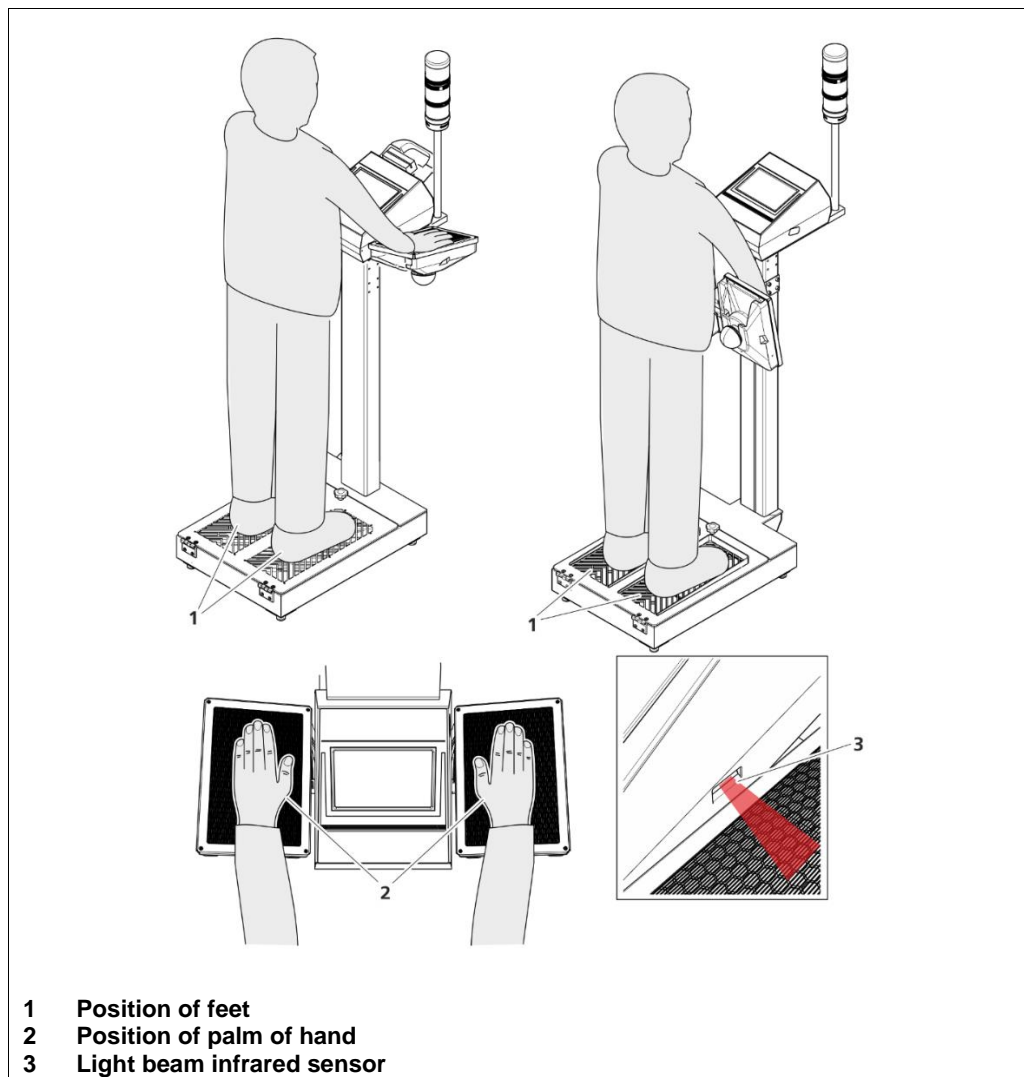

Fig. 13 Positioning feet and hands
1. Step onto the foot plate with both feet (Fig. 13, item 1). Make sure your feet are completely on the foot grates.
3. Place your hands on the hand detectors to start the contamination measurement (Fig. 13, item. 2).